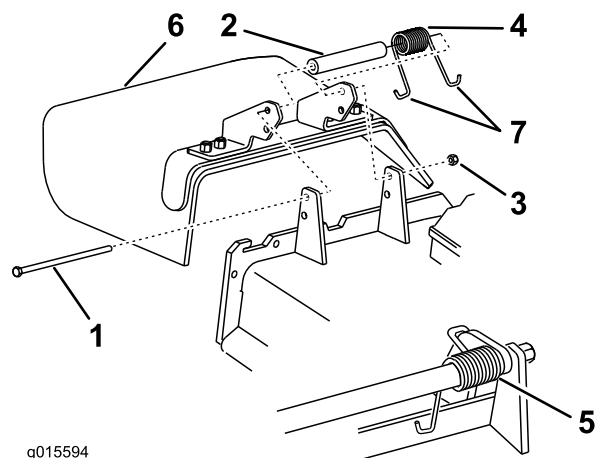

Figure 101
1. Remove the locknut, the bolt, the spring, and the spacer holding the deflector to the pivot brackets (Figure 101).
2. Remove the damaged or worn grass deflector (Figure 101).
**Note:** Ensure that 1 J-hook end of the spring is installed behind the deck edge before installing the bolt as shown in Figure 101.
6. Place 1 J-hook end of the spring around the grass deflector (Figure 101).